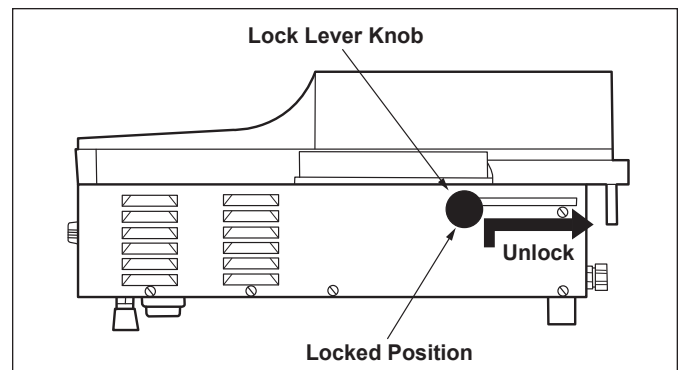

Figure 4. Lock Lever
1. Make sure the Lock Lever is in the locked position (Figure 4).